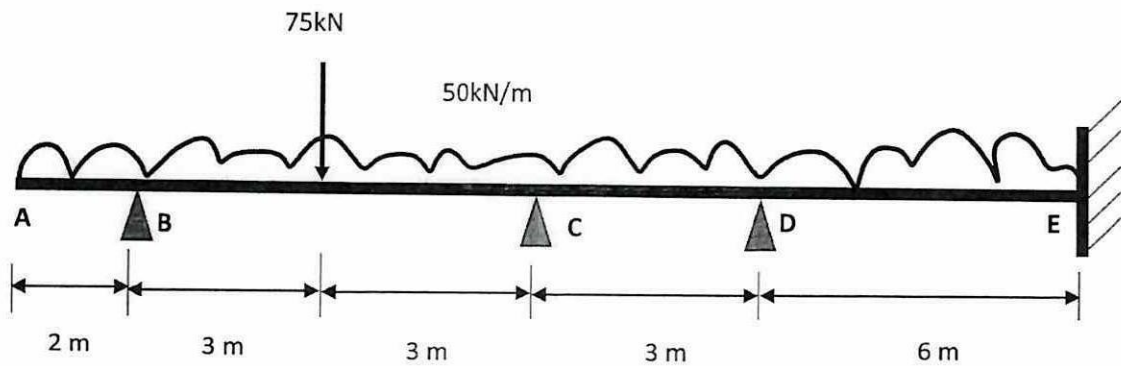
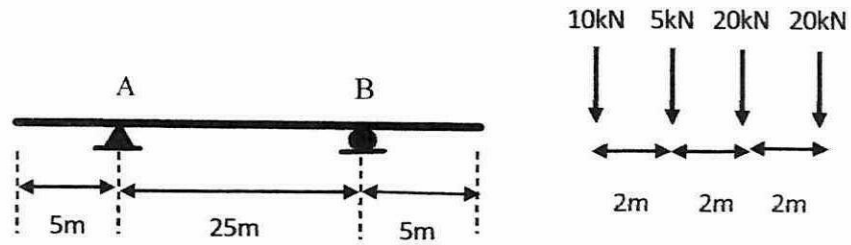

Figure Q2
Figure Q3
- Q2** **Figure Q2** shows a continuous beam, cantilevered at AB and fixed at E. The beam is subjected to uniformly distributed load of 50 kN/m and point load of 75kN on span BC, respectively. The length of the span is shown in the figure and EI is constant.
- (a) Calculate the stiffness, distribution factor (DF) and fixed end moment for each span of the beam. (16 marks)
- (b) As shown in the **Figure Q3**, a beam crossed by the train of four loads. Determine the maximum moment at mid-span using influence line method. (21 marks)